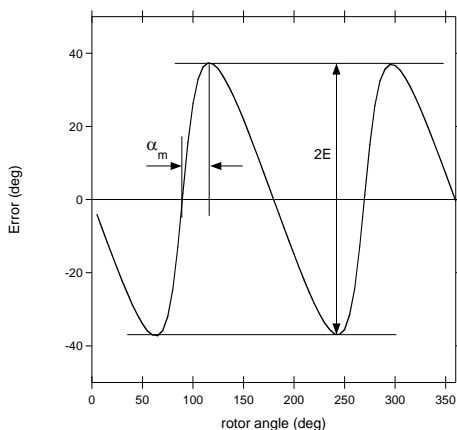

Figure 30: Error Curve in Side-Shift Configuration with BCT = 0
The k ratio depends on the magnet geometry and distance to the sensor. If the k ratio does not equal 1, the sensor output response is nonlinear with respect to the mechanical angle. The error curve has the shape of a double sinewave (see Figure 30). E is the amplitude of this error.
Next, plot the error curve (the difference between the MA600A's output and the real mechanical position vs. the real mechanical position) and extract two parameters: the maximum error (E), and the position of the maximum with respect to a zero crossing (α_m) (see Figure 30). The k ratio can be calculated with Equation (10):
Figure 30 shows the error curve.